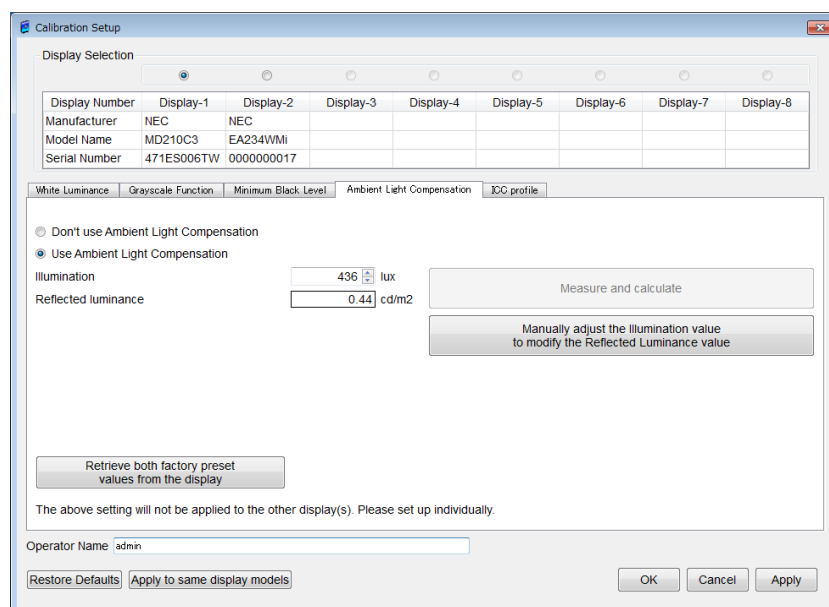

Figure 51: Calibration Setup - Ambient Light Compensation dialog box
After the following buttons are clicked in **Ambient Light Compensation** tab(**Figure 51**), **Illumination** value and **Reflected**
- **Manually adjust the Reflected Luminance value** button(Figure 51)
- **Retrieve both factory preset values from the display** button(Figure 51)
- **Measure and calculate** button(Figure 51)
Click the tab **Ambient Light Compensation** to display the **Calibration Setup - Ambient Light Compensation** dialog box, as shown in **Figure 51**. This tab is active for certain NEC MD display models. If **Use Ambient Light Compensation** has been selected, the current ambient light condition can be measured via the display's ambient light sensor. After that you may edit the captured value for correct operation of the Ambient Light Compensation function during normal operation.